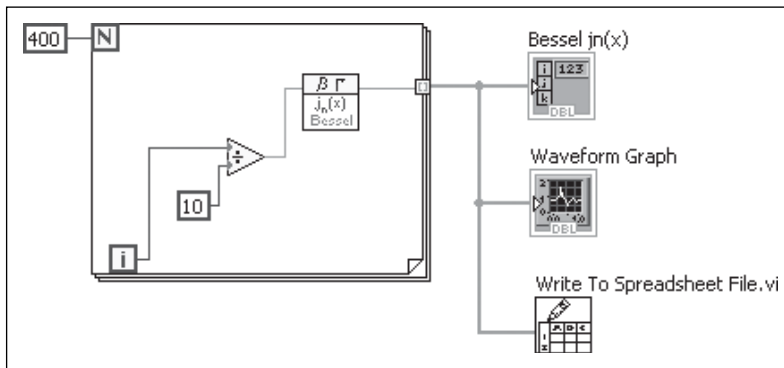

Figure 6.58
- The VI shown in Figure 6.58 calculates Bessel function ($j_n(x)$) data and writes the data to a .txt file, specifically, Bessel jn.txt. The file is available on the text's website.